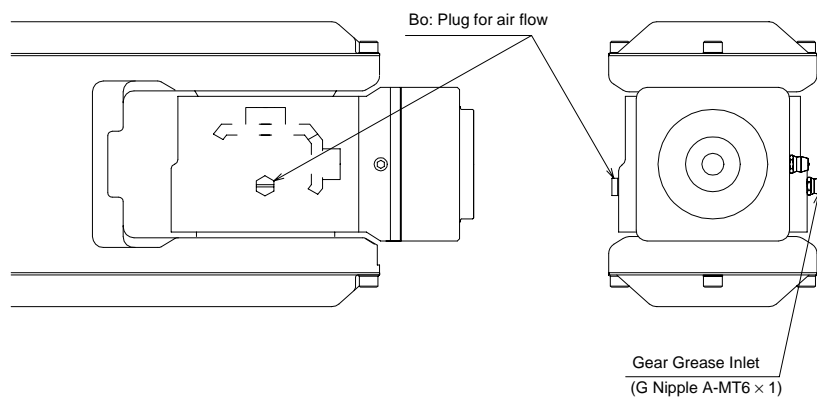

Fig. 31 T-Axis Gear Diagram
2. Inject grease into the gear grease inlet using a grease gun. (Refer to " Fig. 31 T-Axis Gear Diagram ".)